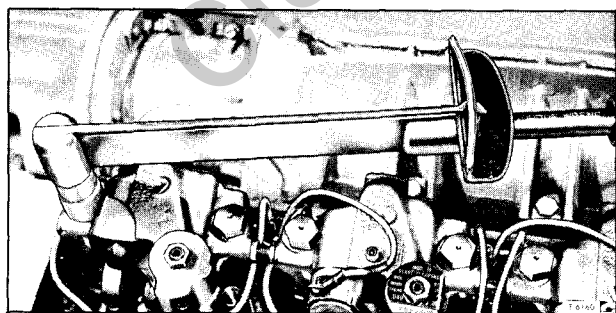

Figure 39—Torquing Housing Hold-Down Bolts (8V-71 Engine Shown)
8. Tighten the hold-down bolts alternately in gradual stages to seat parts solidly at cylinder head, then tighten bolts (fig. 39) to 90 foot-pounds with torque wrench.